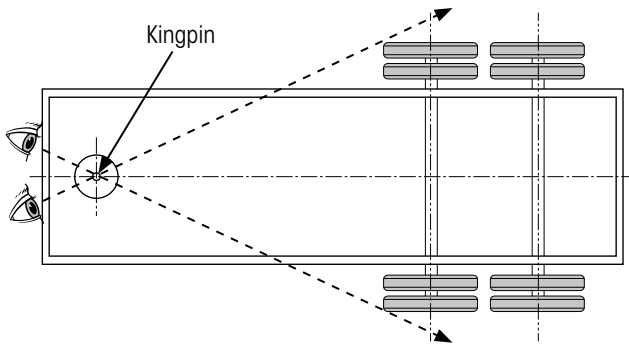

Figure 16: Checking for measurement obstructions
1. From a position at the front of the trailer (Figure 16), sight along a line under the trailer from the kingpin to each end of the front axle.